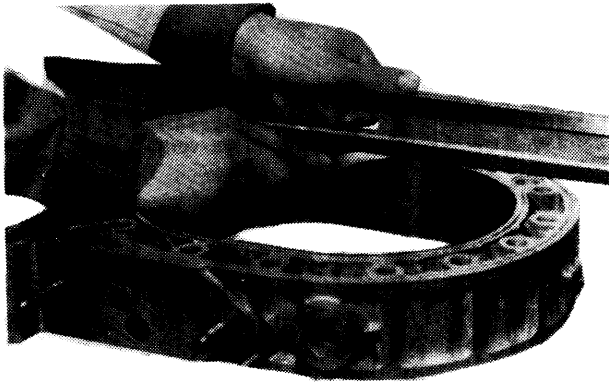

Fig. 10 Measuring Rotor Housing for Distortion
- 3) Place a straightedge across sealing surface of rotor housing and check for distortion, using a feeler gauge. If distortion exceeds .0016" (.04 mm), replace housing. See Fig. 10.